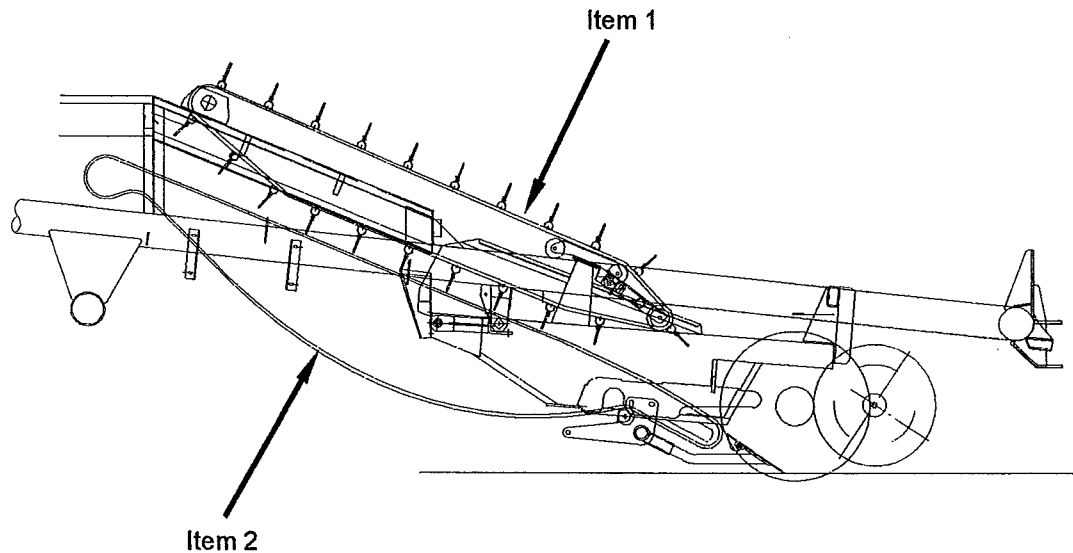

Fig 10.12
The vari-web unit consists of a wide pitch web with rubber flights (Fig 10.12 item 1) mounted above the main web (Fig 10.12 item 2). It is driven hydraulically, and used to assist in the transport of the crop up the main web when working in hilly conditions.